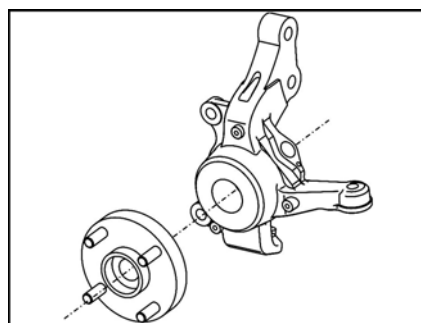

Fig. 2-11
6) According to Fig. 2-11, remove the wheel bearing.